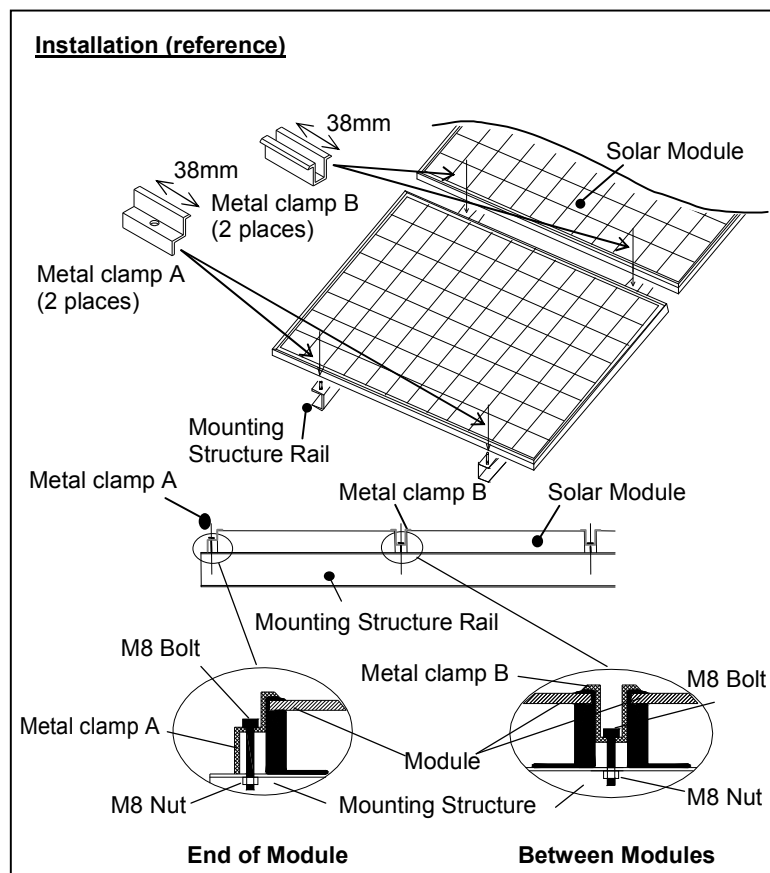

Figure 1. Installation
- SANYO recommends the installation method and mounting profile shown in Figure 1.